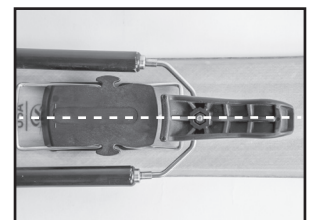

FIGURE 4
1.) Always make sure the heel assembly is centered in the ski to maintain even pre-load of the spring cartridges. If the spring cartridges come out of adjustment, rotate clockwise to tighten and counter clockwise to loosen, to bring the heel lever back to center. (SEE FIGURE 4)